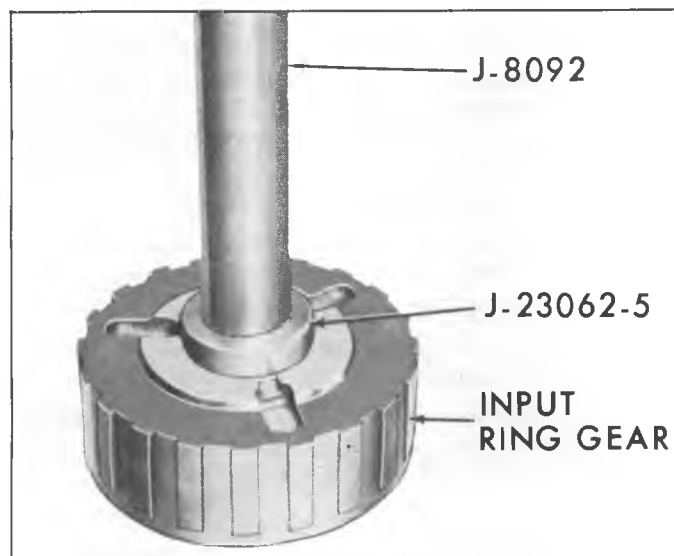

Fig. 101M--Installing Input Ring Gear Support Bushing
1. Using tool J-23062-5 and drive handle J-8092 install input ring gear bushing to approximately  $\frac{1}{16}$ " below rear face inside gear end (fig. 101M).